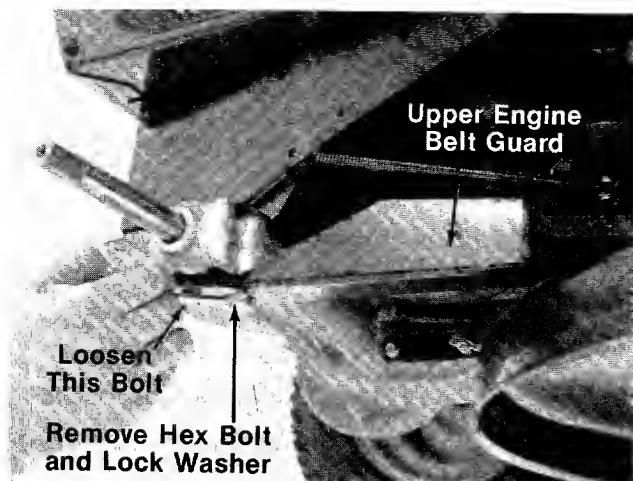

FIGURE 28.
5. Remove one hex bolt and lock washer at the front of upper engine belt guard. A 7/16" wrench is required. See figure 28.
6. Loosen (**Do Not** remove) the second bolt. See figure 28.